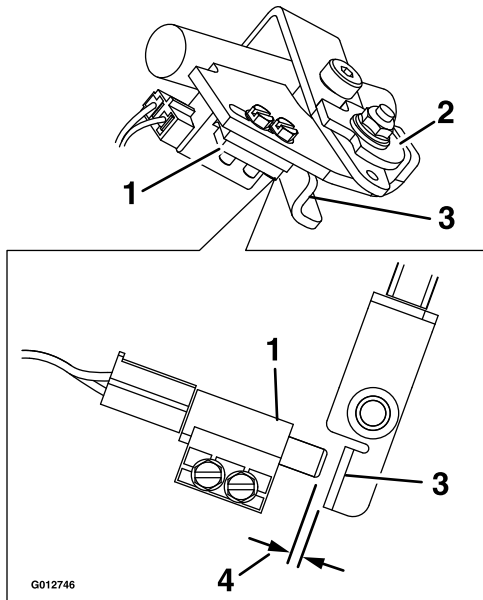

Figure 42
9. Check the gap between the control lever and switch as shown in Figure 42. The gap needs to be an 1/8 inch (3mm) with the right motion control lever in the neutral, operate position.